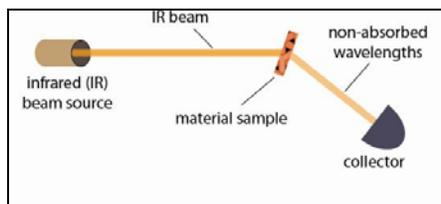

Figure 1: Simple diagram depicting FTIR process
In FTIR, an infrared (IR) beam of light is passed through either a liquid or solid sample of the material we're examining (for solids, the samples are sliced thin enough that the light does actually pass through them). As this beam passes through the sample, the energy in the infrared light interacts with and 'excites' the molecular bonds, causing the actual bonds to move like springs and vibrate. Different bonds absorb energy differently: some more strongly or more weakly, some have more energy absorption or less energy absorption. In FTIR, the IR energy that isn't absorbed by the bonds passes straight through the sample and is 'read' by a collector on the other side of the sample (see Figure 1). **This reading produces an absorption plot to view the plots and case history click here.**